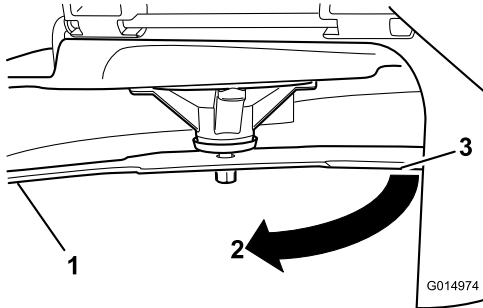

**Figure 55**
5. Measure from the tip of the blade to the flat surface (Figure 55).